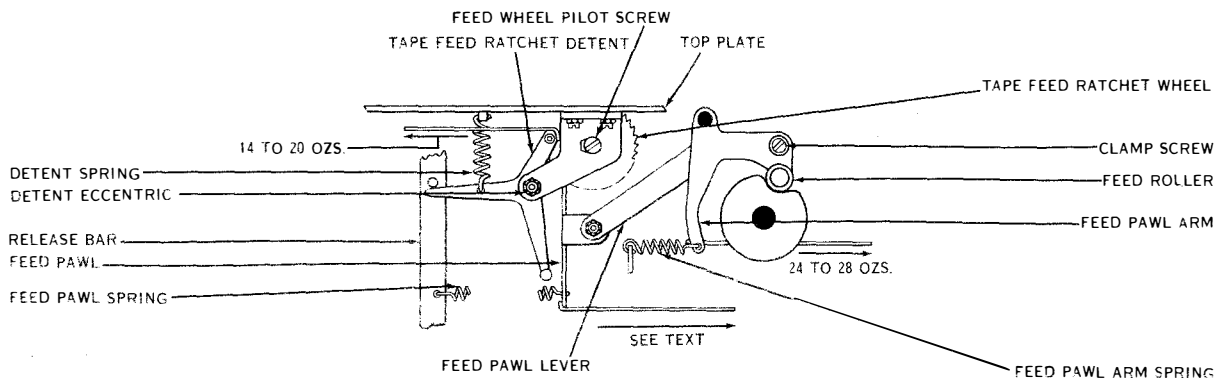

Figure 7-98. Feed Pawl and Feed Wheel Detent Spring Tensions
(33) **TAPE FEED RATCHET WHEEL DETENT SPRING TENSION.** (See figure 7-98.)—When the tape feed ratchet detent roller is resting between two teeth on the tape feed ratchet wheel, it should require a tension of 14 to 20 ounces to start the detent moving. To check, hook a 32-ounce scale over the roller on the detent and pull parallel with the top plate.
(35) **FEED PAWL ARM SPRING TENSION.** (See figure 7-98.)—When the transmitting cam sleeve is in its stop position (clutch disengaged) and the feed roller is resting on the low part of its cam, it should require a tension of 24 to 28 ounces to start the feed pawl arm moving. To check, with the feed pawl spring unhooked from the feed pawl, place a 32-ounce scale over the feed pawl arm in line with the spring hole and pull at right angles to the feed pawl arm. Rehook the feed pawl spring.
(36) **FEED PAWL SPRING TENSION.** (See figure 7-98.)—When the distributor-transmitter operates at 60 or 75 wpm, a 60-turn spring is used. When the distributor-transmitter operates at 100 wpm, a 40-turn spring is used. When the transmitting cam sleeve is in its stopped position (clutch disengaged), a tension of 1/2 to 2 ounces for 60 or 75 wpm or 3 1/2 to 4 1/2 ounces for 100 wpm is required to start the feed pawl moving